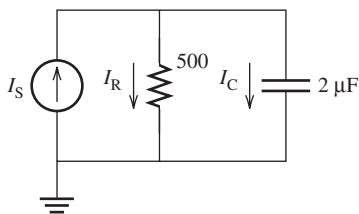

FIGURE P6.39 Circuit for Problem 6.39.
6.39 (A)* If $i_s(t) = 2 \cos(200t)A$ in Figure P6.39, find the steady-state expressions for I_R and I_C .
- 6.73** (B) If $i_S(t) = 2 \cos(200t)$ in Figure P6.39, use PSpice to plot the current, I_R and I_C .